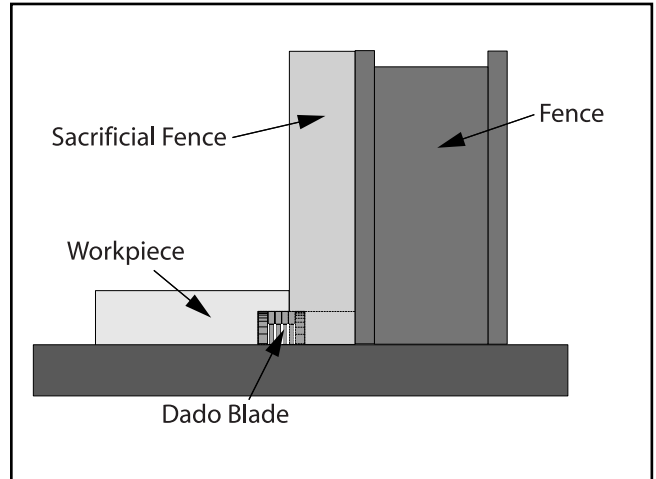

Figure 50. Rabbet cutting.
2. Adjust the fence and align the workpiece to perform the cutting operation as shown in **Figure 50**.